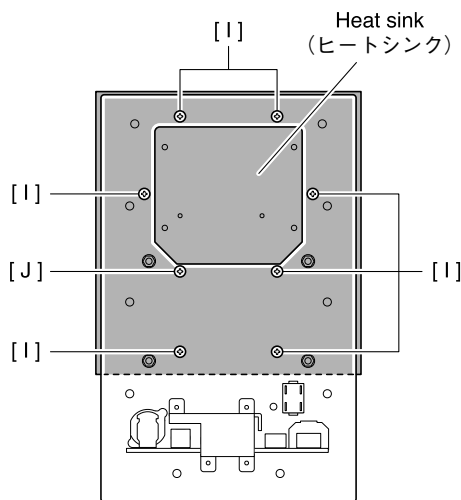

Fig. 10(図10)
- 8-4 Remove the seven (7) screws marked [I] and screw marked [J]. The heat sink can then be removed. (Fig. 10)
- 8-4 [I]のネジ7本と[J]のネジを外し、ヒートシンクを外します。(図10)